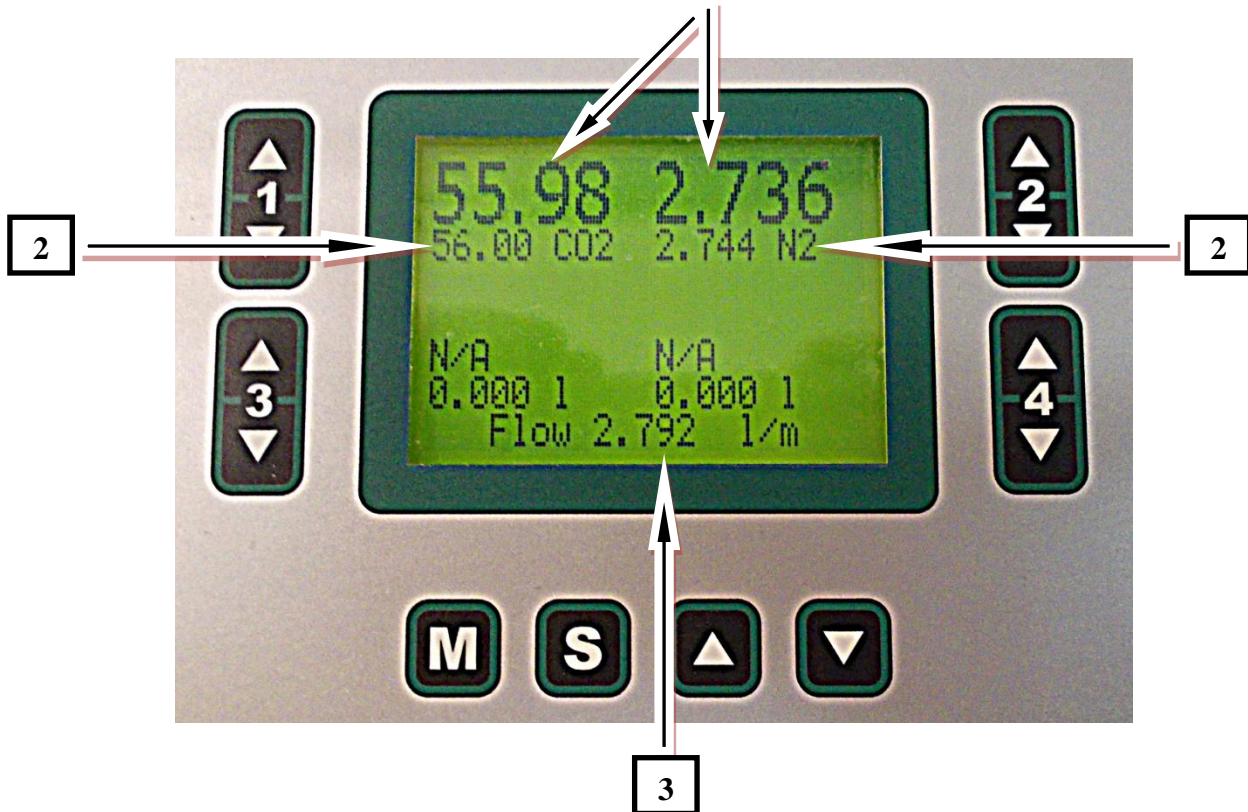

Fig. 9 Display with Absolute Flow Units
- The current flow values for gases used are shown on the top of the display, on left side is usually current gas flow for CO₂, on the right side is usually current gas flow for Air/N₂ (Fig. 9).
- It shows absolute air flow on the valves used. The absolute target flow is computed as a sum of flow on each individual valve (Fig. 9).
Example from Fig. 9 – 56 ml/min of CO₂ + 2736 ml/min N₂ = 2792 ml/min = 2,792 l/min.